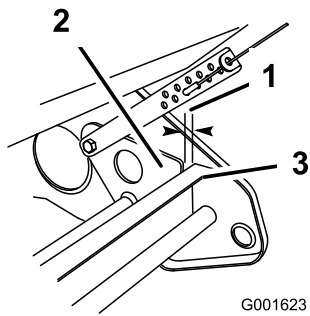

Figure 23
2. Ensure that the distance between the pivot plate and the wheel frame is 0 to 1/8 inch (0 to 3 mm) (Figure 23).